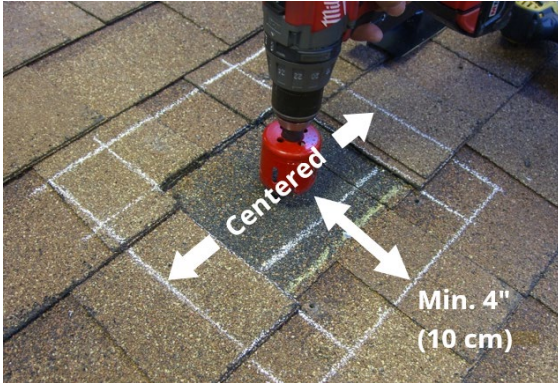

Fig. B5
- Through the roof surface from which you removed material, drill a single pass-through hole no larger than 5 cm (2"), centered E-W, and no less than 4" (10 cm) from the lower edge of the flashing (Fig. B5).